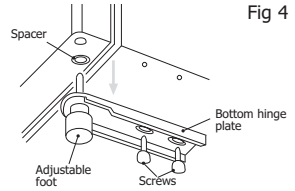

Fig 4
- Unscrew the screws to release the bottom hinge plate with adjustable foot (Figure 4).